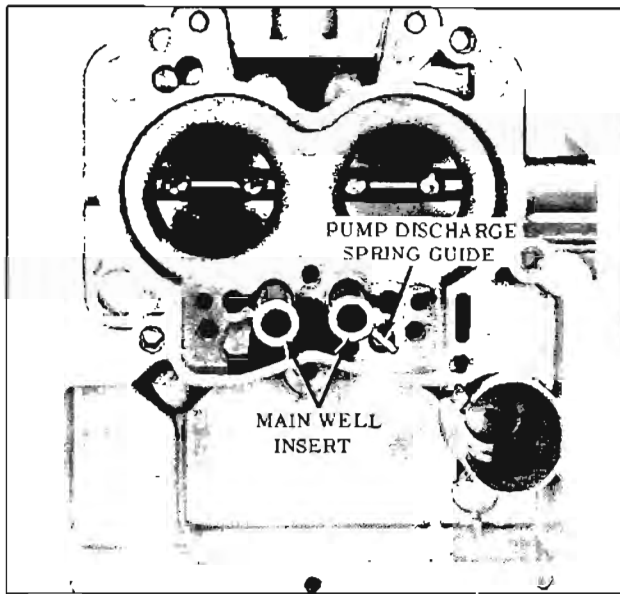

Fig. 9-154 Pump Discharge Spring Guide
4. Using a pair of needle nosed pliers, remove the pump discharge spring guide, then remove the spring and steel ball. (Fig. 9-154)
- Install steel pump discharge ball, spring and guide into the pump discharge passage, in the venturi cluster mounting surface. (Fig. 9-154)
- Install the 2 main well tube inserts into the main wells. Make sure the lip on the main well inserts are seated properly in the casting. (Fig. 9-154)